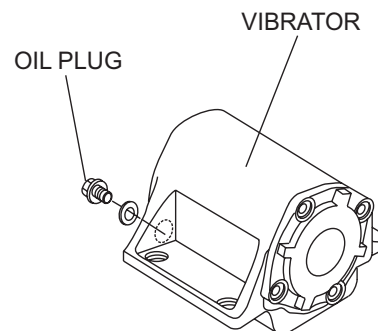

**Figure 7. V-Belt Tension**
2. The V-belt tension is proper if the V-belt bends 10 to 15 mm (Figure 7) when depressed with finger midway between the clutch and vibration pulley shafts.